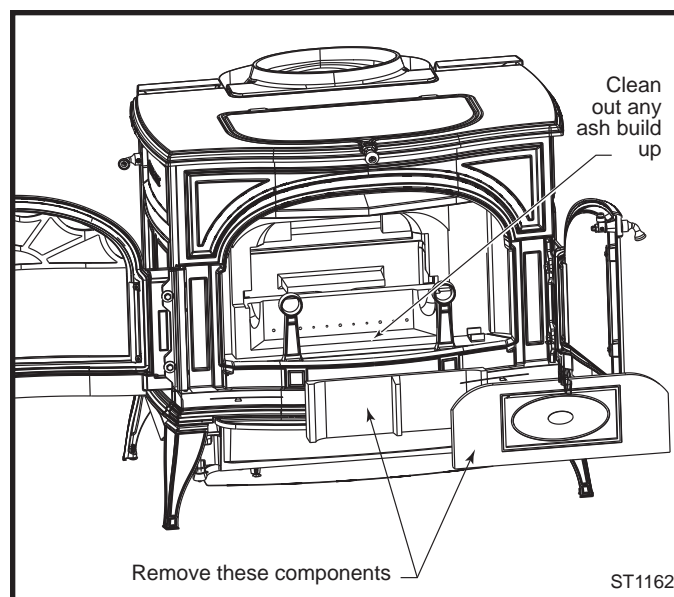

Fig. 36 Inspect and clean out ash accumulation behind the combustion system.
- Inspect for and remove ash build-up behind the combustion package. This should be done in conjunction with annual cleaning of the chimney connector. Inspect the passage behind the combustion package (a mirror will be helpful) and vacuum away ash using a flexible vacuum hose inserted in the passage. (Fig. 36)